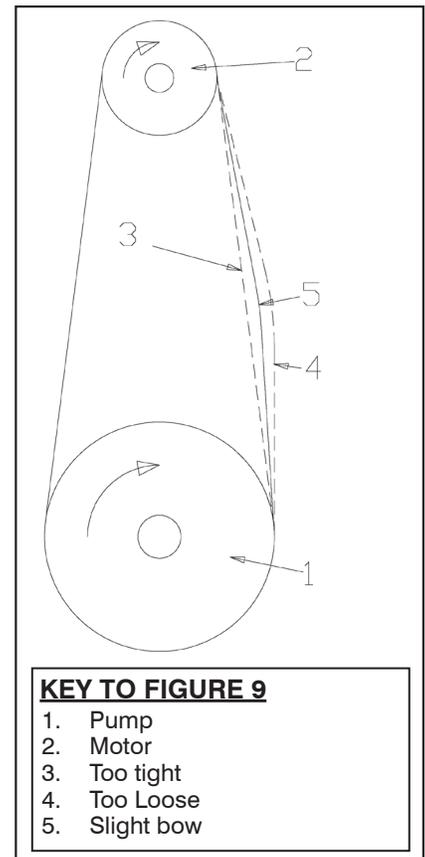

Figure 9. V-Belt Tensioning
2. Start the drive and continue to tension the V-belt(s) until only a slight bow on the slack side of the drive appears while operating under load conditions as shown in Figure 9.